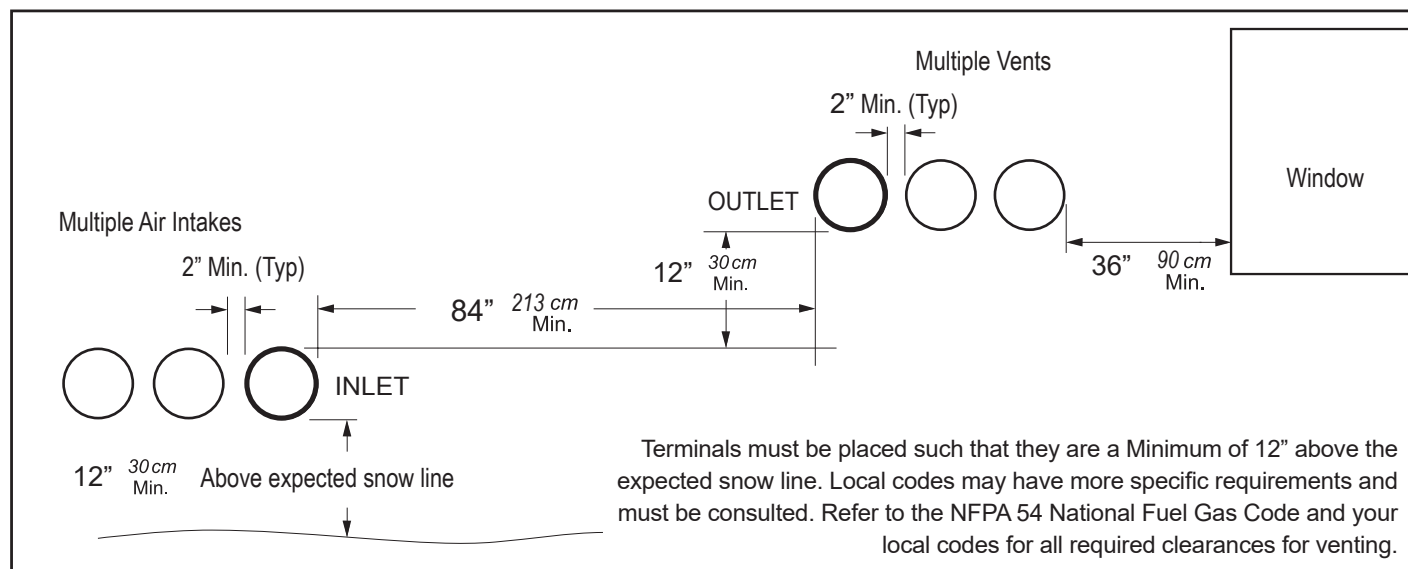

Figure 3. Minimum Venting Distance for Single and Multiple Units. Category III only
4. If the unit is side-wall vented to the same wall as it's ducted combustin air, use Figure 3 on page 22 to determine the proper mounting locations.
5. Multiple vent kits should be installed such that the horizontal distance between outlet group and inlet group is 84" (213 cm). (See Figure 3)
6. The vent outlet must be at least 12" above the top of the air inlet, and must be at least 84" (213 cm) horizontally from the air inlet. (See Figure 3).